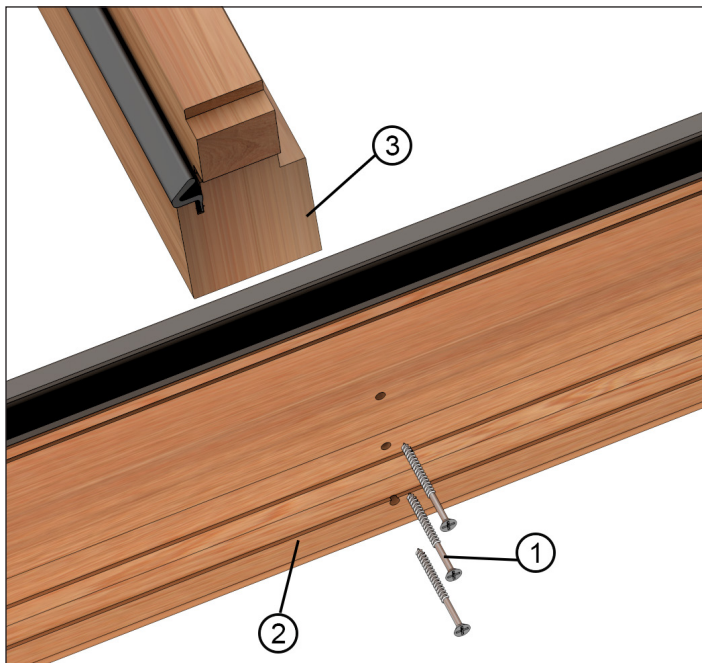

Figure 5
7. Note: This step for Reserve Wood Entry Door only. Fasten uni-frame with screws through the bottom of the sill and into the uniframe through the pre-drilled holes. Screw quantity varies dependent on the sill type and size. See figure 5.